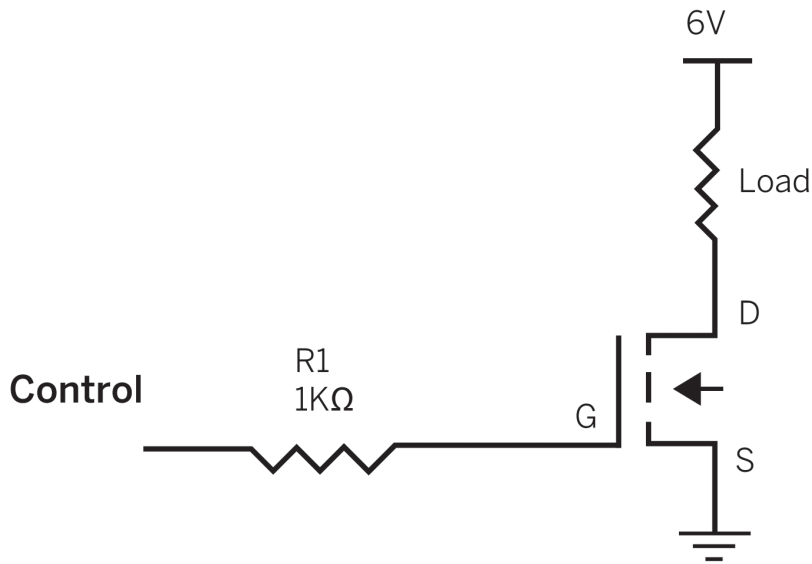

Figure 5-6 Using a MOSFET
Switching using a MOSFET actually makes a lot of sense if you are using an Arduino or Raspberry Pi, because almost no current is needed; you just need to make sure that the voltage at the gate is greater than the gate threshold voltage for the transistor. The gate threshold voltage is the voltage at which the MOSFET turns on, allowing a current to flow from drain to source. Figure 5-6 shows how to connect up a MOSFET to control a load. This is really just the same as for a bipolar transistor.
The schematic diagram shown in Figure 5-6 uses two symbols we have not seen before. Connected to the source of the transistor (S) is a row of three parallel lines of reducing length. This is the symbol for ground, and using it in schematics reduces the number of connecting lines that you need to draw on the diagram.
Looking at Figure 5-6, you may be wondering why you still need R1, as the gate does not draw any current. The reason it's a good idea to still include the resistor is that when you first raise the gate voltage, there will be a very quick inrush of current for a fraction of a second. The resistor makes sure that this current does not exceed the capabilities of the GPIO pin.